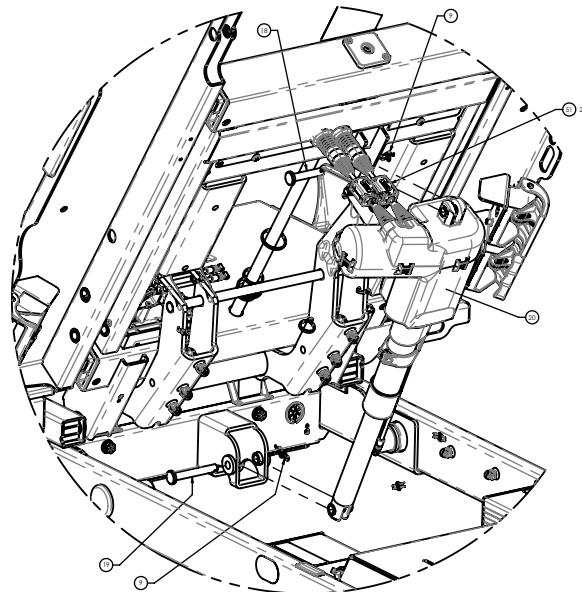

Figure 28 – Fowler actuator replacement
8. Using needle nose pliers, remove both rear ring retaining clips (9) from the clevis pins (18, 19) that attach the actuator (20) to the litter weldment and Fowler weldment (Figure 28).
9. While supporting the actuator (20) with one hand, remove the head end clevis pin (18) and then lower the actuator down (Figure 28).
14. While supporting the actuator (20) with one hand, remove the foot end clevis pin (19) and then lower the actuator down (Figure 28).